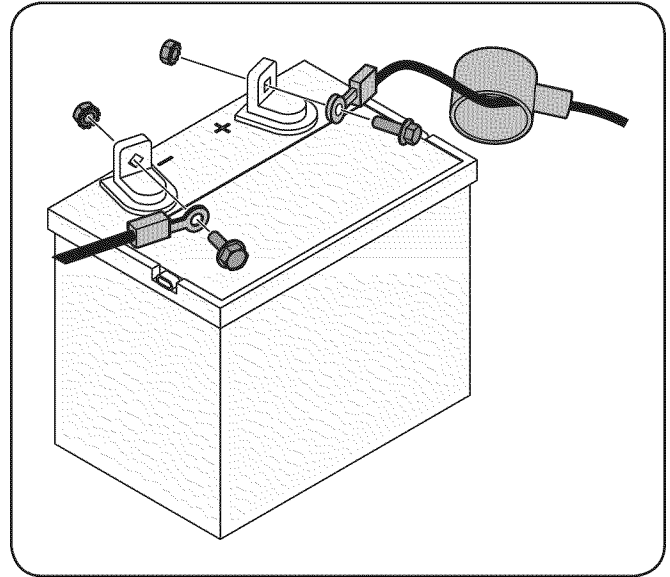

Figure 3-5
- Remove the plastic cover, if present, from the positive battery terminal and attach the red cable to the positive battery terminal (+) with the bolt and hex nut. See Fig. 3-5.
- Remove the plastic cover, if present, from the negative battery terminal and attach the black cable to the negative battery terminal (-) with the bolt and hex nut. See Fig. 3-5.